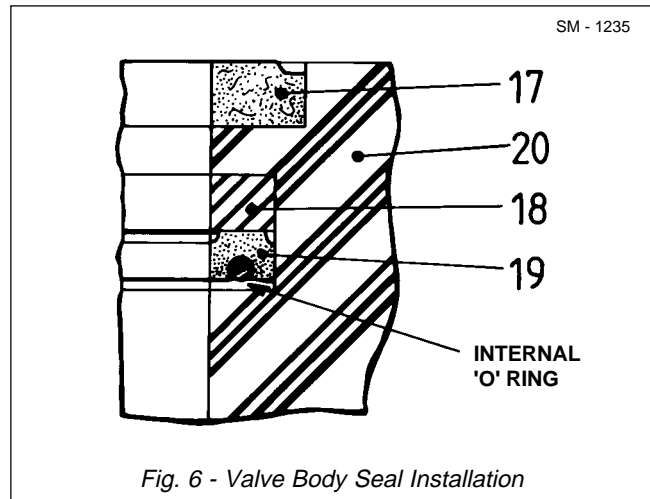

Fig. 6 - Valve Body Seal Installation
1. Install seal (19) in seal groove of valve body (20) first. Position seal (19) in the groove so that internal 'O' ring is facing down toward the bottom of valve body (20). See Fig. 6.
2. Make sure the internal 'O' ring is still seated inside seal (19) and did not get dislodged during installation. Position seal (19) to the bottom of the groove.
3. Install backup ring (18) on top of seal (19). Start by hand and then continue to work into the groove either by hand or by using an 'O' ring installation tool.
4. Install wiper seal (17) in the top counterbore. Position wiper seal (17) in the groove so that the register lip is facing up toward the actuator.